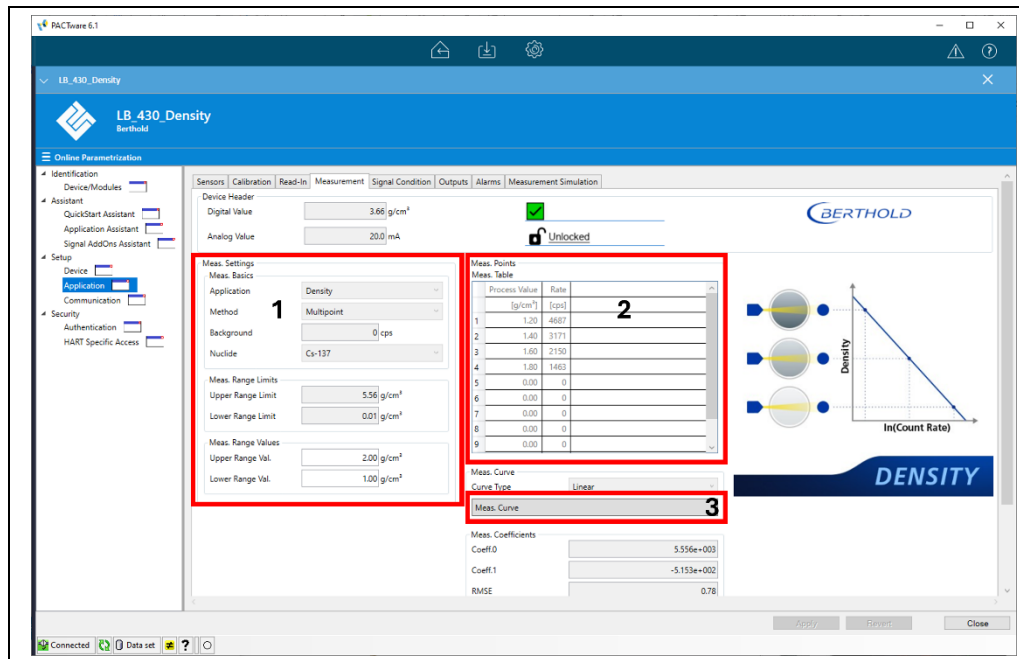

Fig. 41 Tab: Setup | Application | Measurement.
- **Meas. Settings:** Displays the relevant settings for the measurement (Fig. 41, Pos. 1).
- **Meas. Points:** Shows the current calibration table (Fig. 41, Pos. 2), providing an overview of the calibration values currently in use.
- **Meas. Curve:** Enables visualization and verification of the measurement curve (via the **Meas. Curve** button, Fig. 41, Pos. 3).